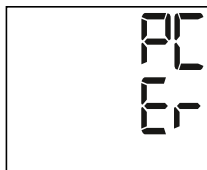

Fig. 2
- A successful data transmission is shown on the display of the blood pressure monitor as in Fig. 2.